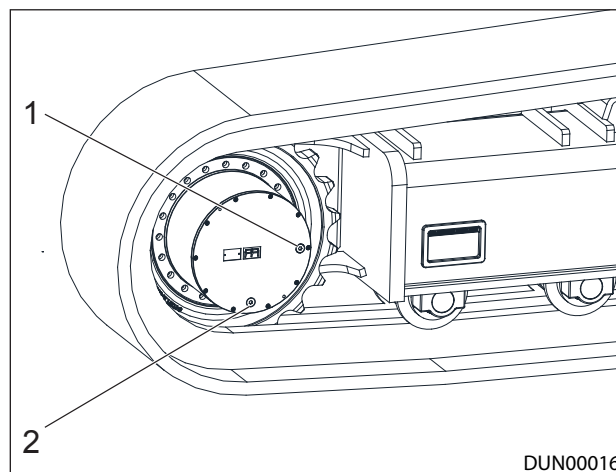

Figure 9.15 - Draining Gearbox Oil
1. Move the machine to a level surface and bring the oil fill and oil drain holes to the position shown in Figure 9.15.
5. Move the machine to bring the plugs to the fill position shown in Figure 9.15. Do not move the machine any further until the gearbox oil has been replaced.